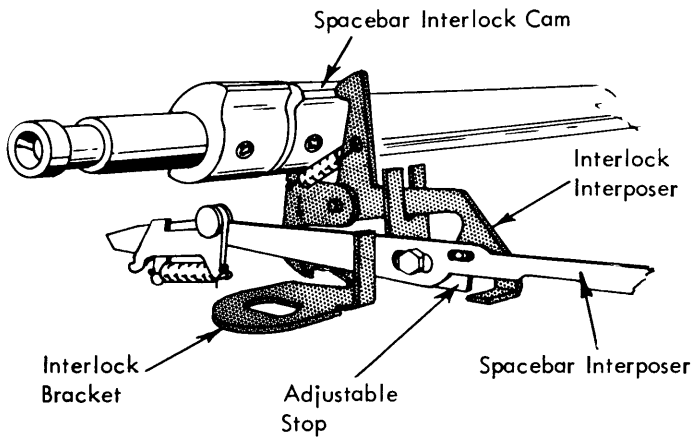

FIGURE 123. Spacebar Interlock Mechanism (New Style)
- a. With the machine latched at rest adjust the spacebar interlock cam radially on the filter shaft so that the tip of the interlock interposer rests on the high point of the cam (Fig. 123).